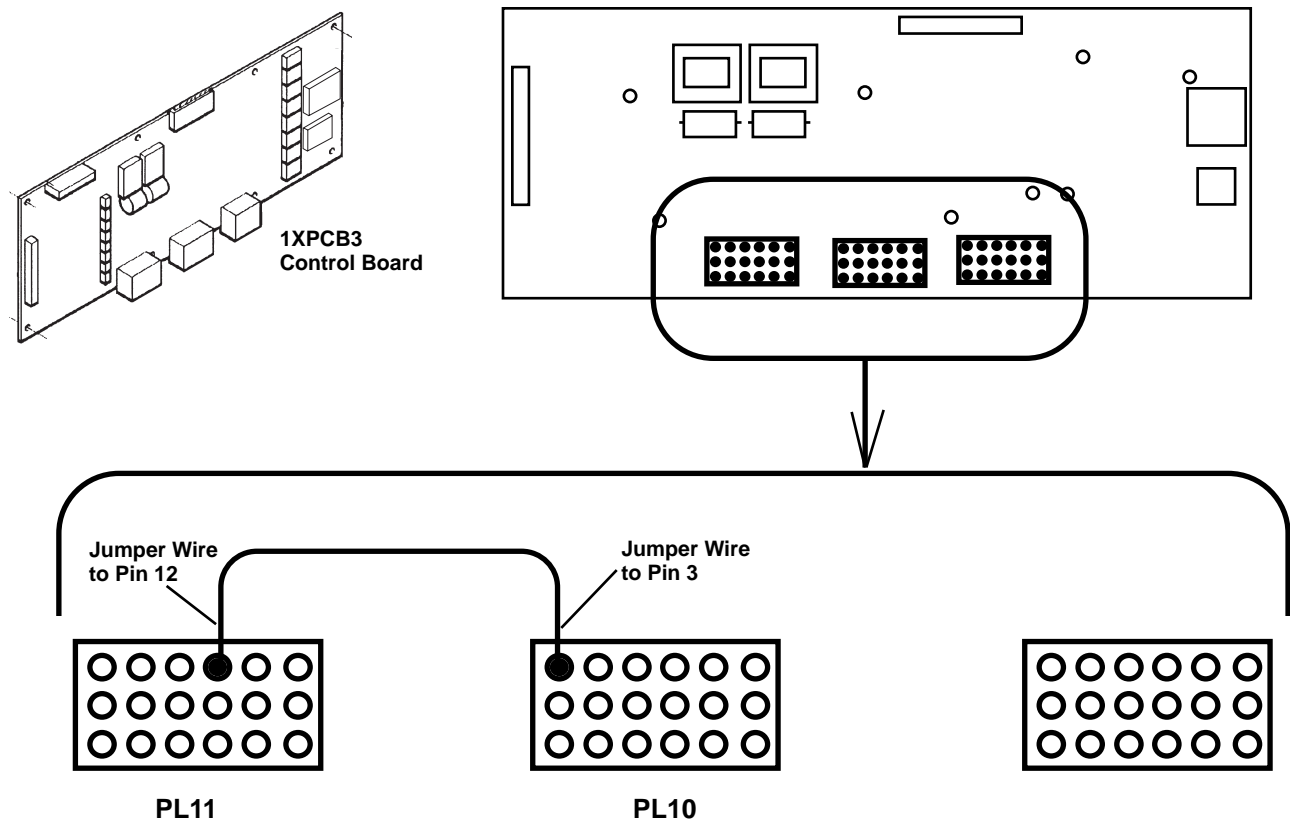

Figure 6 Install Jumper Wire to Control Board Plugs
4. Install 123387 jumper wire to Power Supply 1XPCB3 Control Board (Figure 6):